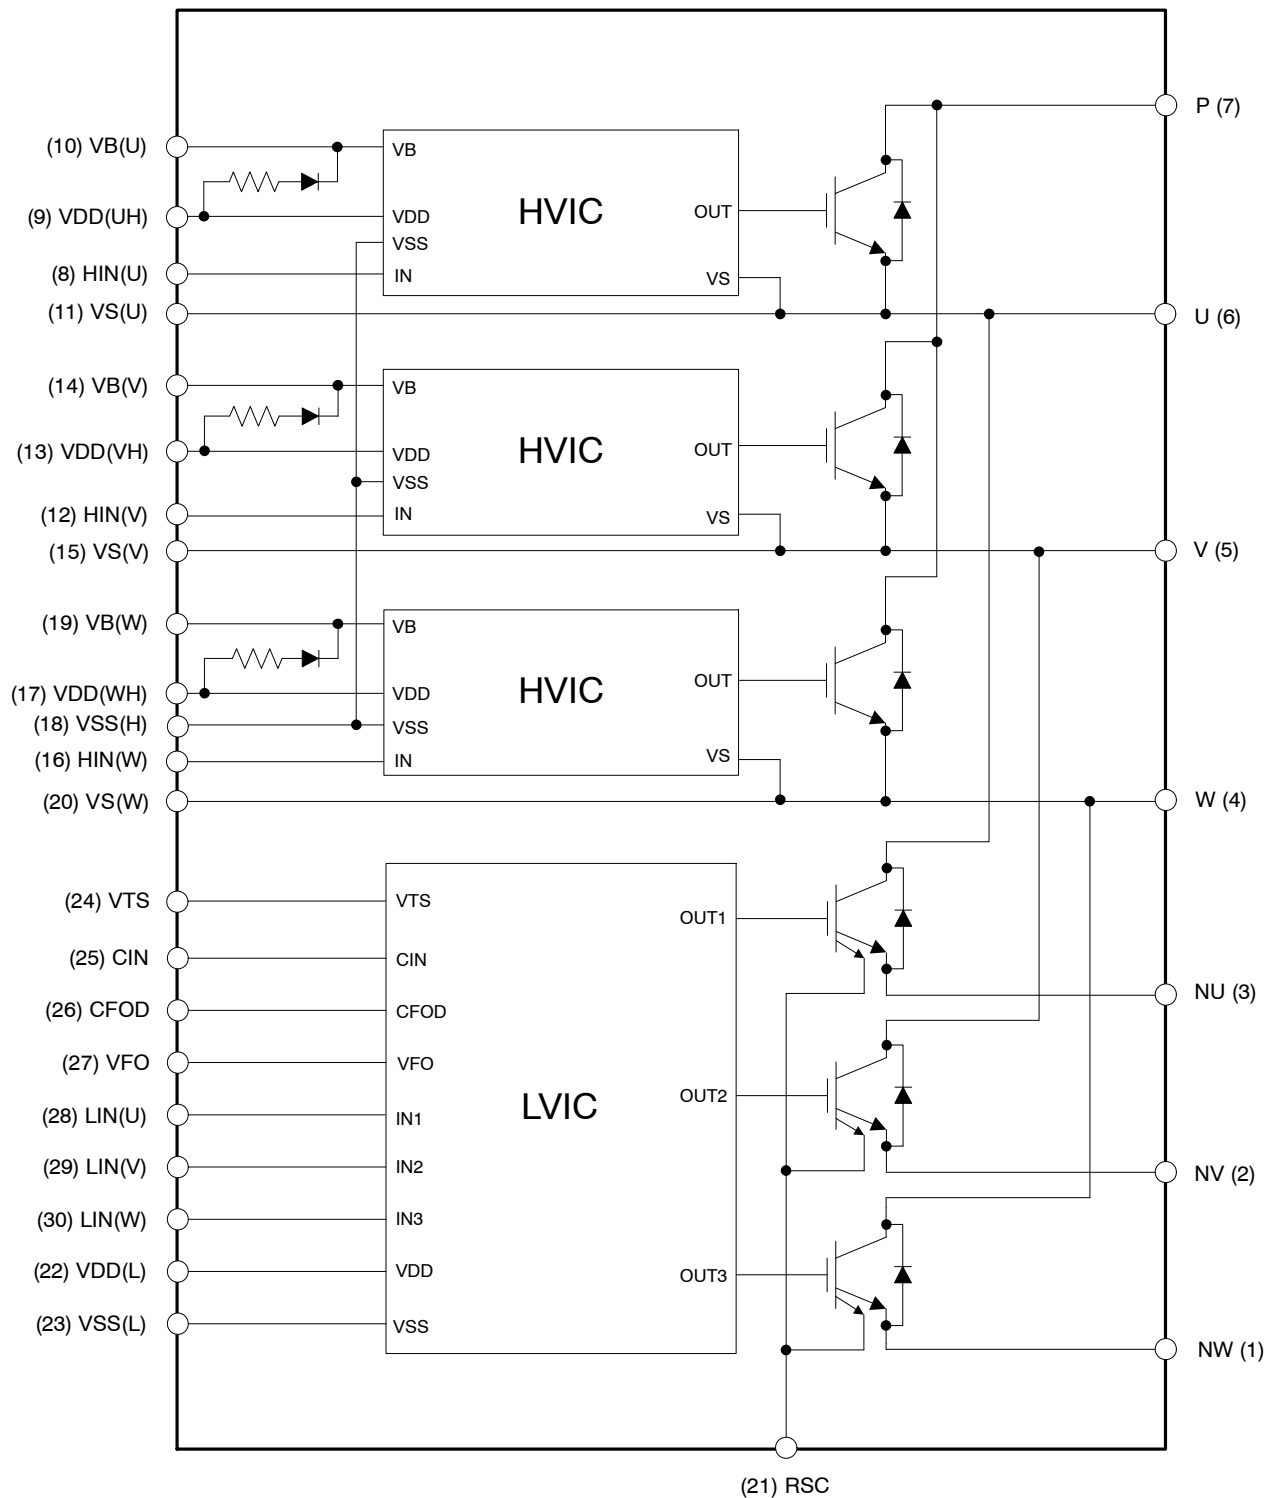

Figure 2. Internal Block Diagram
- 650 V – 75 A IGBT Inverter for Three-Phase DC/AC Power Conversion (Refer to Figure 2)